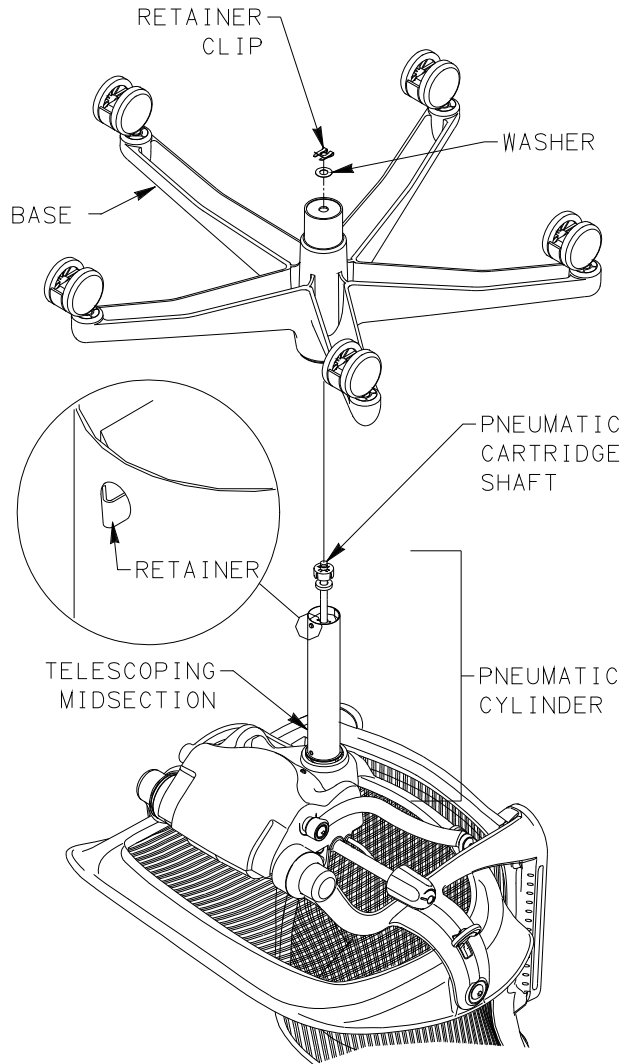

FIGURE 3
-STANDARD CYLINDER: INSTALL BASE OVER PNEUMATIC CYLINDER. SEE FIGURE 3.
-HIGH PERFORMANCE CYLINDER (TELESCOPING MIDSECTION): DEPRESS RETAINER ON TELESCOPING MIDSECTION WHILE INSTALLING BASE OVER PNEUMATIC CYLINDER. SEE FIGURE 3.
10. INSTALL WASHER AND RETAINER CLIP TO SHAFT OF PNEUMATIC CARTRIDGE. SEE FIGURE 3.